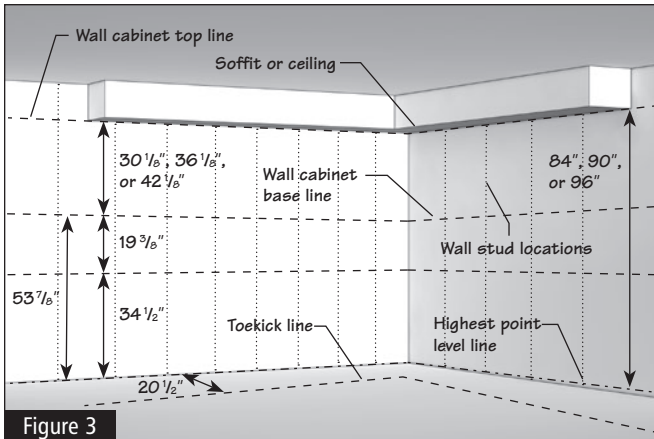

Figure 3
- 1.4** Now measure up from the wall cabinet base line the same distance as the height of your cabinets ($30\frac{1}{8}"$, $36\frac{1}{8}"$ or $42\frac{1}{8}"$). This will be the top line for the wall cabinets. Any non-standard height wall cabinets need to line up with this top line as well. (Figure 3)